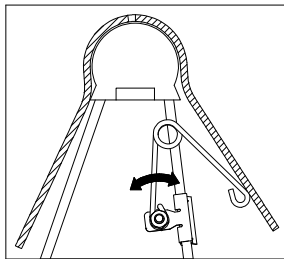

Figure F2: Cutaway view of driver side pivot arm and saddle.
2. Adjust the resting angle of your coupler plate by rotating the spring on the driver side pivot arm. Pulling the top of the spring away from the cab will increase the angle of the coupler plate. Set the angle of the coupler so that head will tilt away from the cab when coupling, see Figure F2. Tighten the 1/4" nut once the spring's orientation is set.